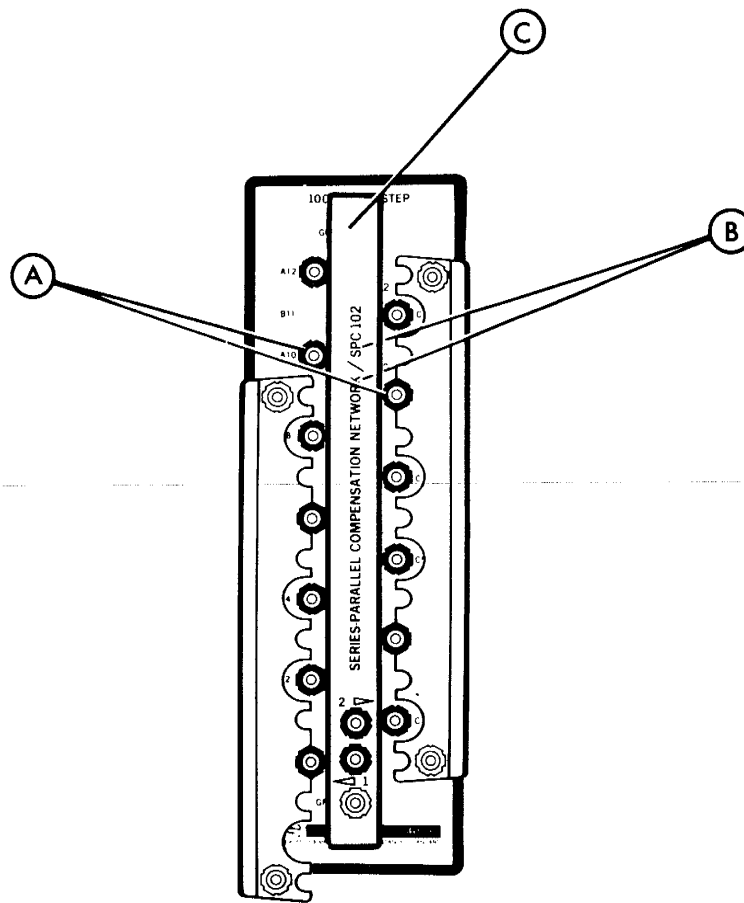

Figure 5-15. Shorting Bar and SPC102 Connections
- 15. Connect the SPC102 Series-Parallel Compensation Network to the SR1030. Reference Figure 5-15.